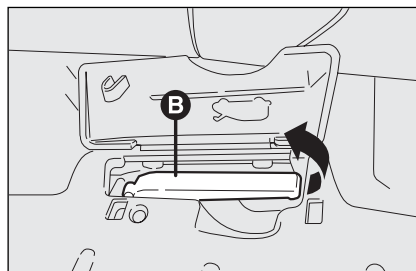

fig. 105
- pull the lever as show by the arrow **B**-fig. 105;